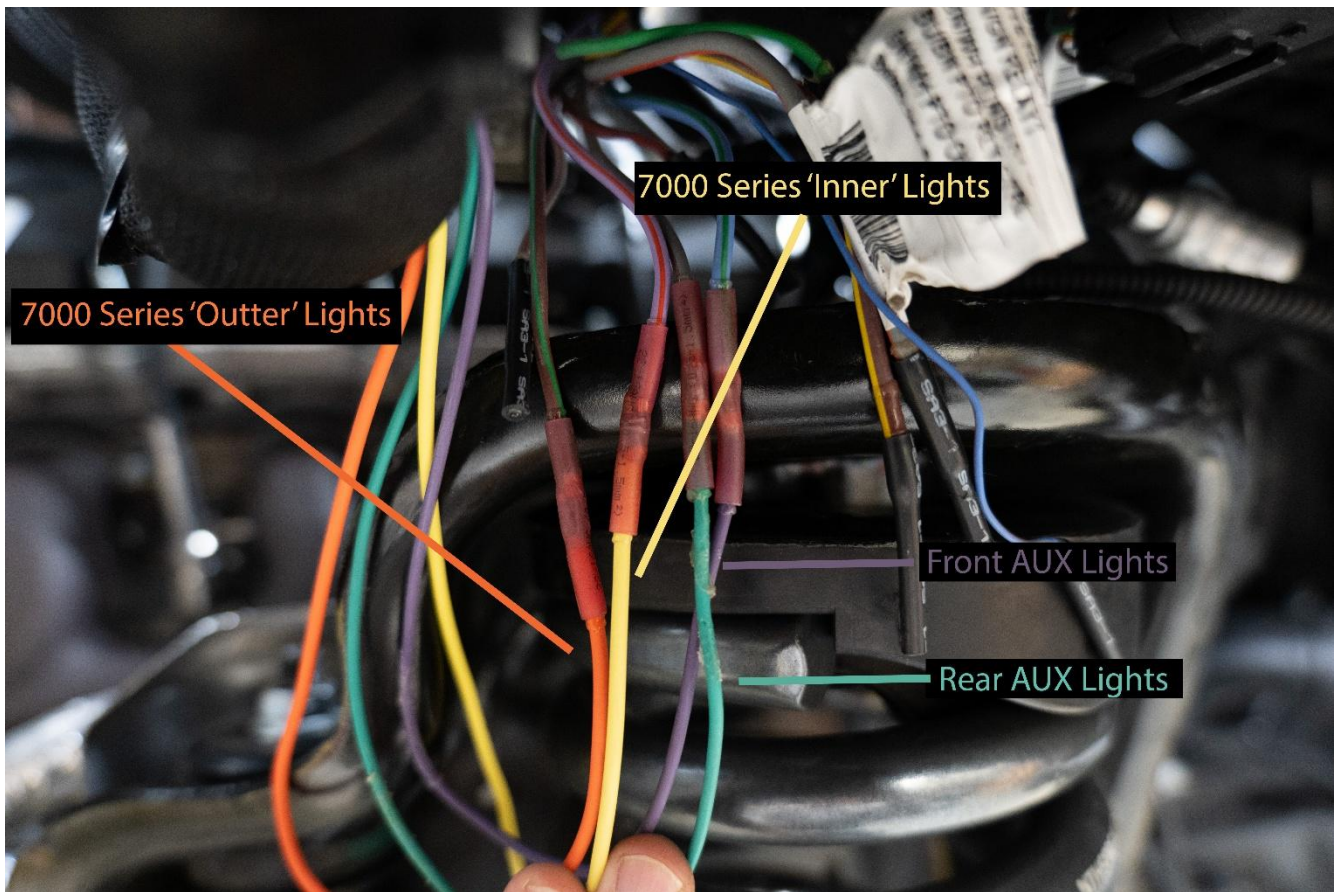

Figure 16
- h. Remove the tape from the wires. Figure 16 shows the diagram for connection of AEV Super Duty Harnesses. These are the standard layout for AEV upfitting for OEM switches, if you would like a different order, please refer to the OEM diagram to place in the order on your aux switches of your choosing.